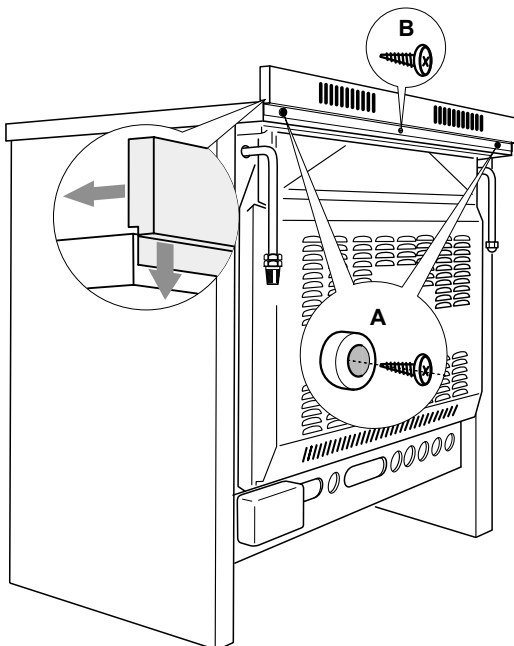

Fig. 2.2
Before installing the cooker, assemble the backguard "C" (fig. 2.2).
4. Assemble the backguard as shown in figure 2.2 and fix it by screwing the central screw "B" and the spacers "A".